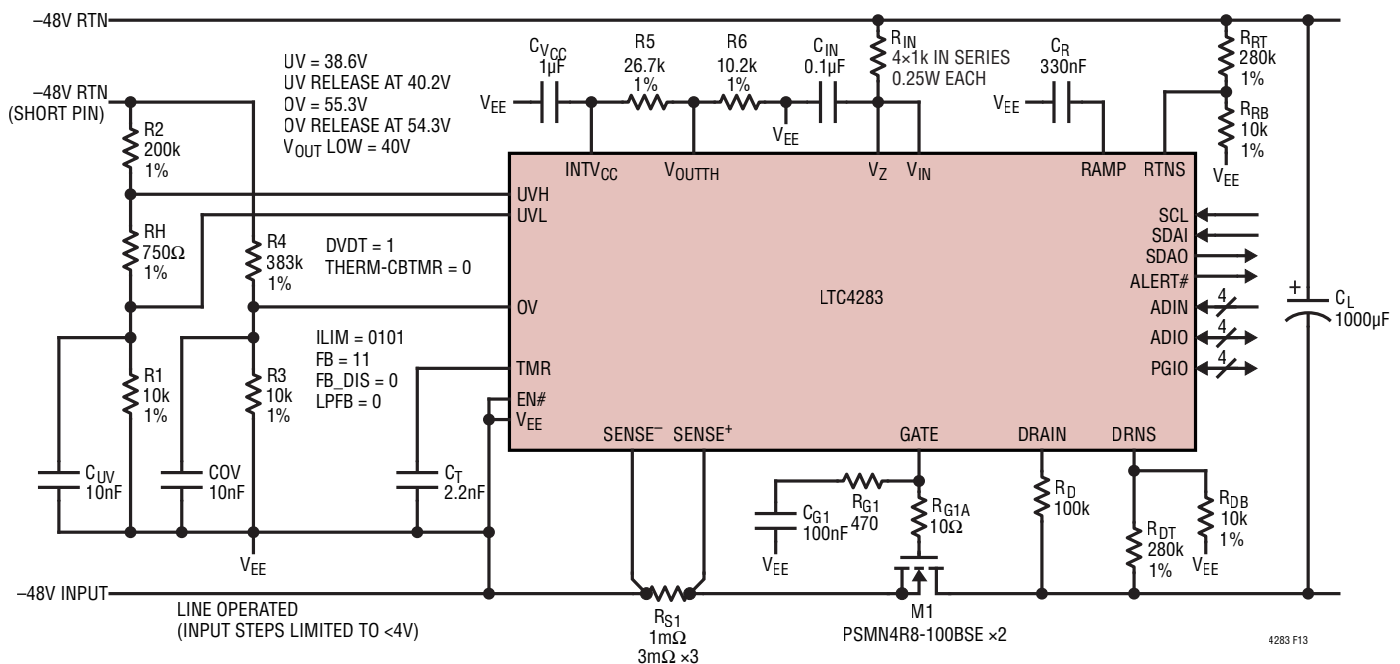

Figure 13. -48V/800W Hot Swap Controller with dV/dt Inrush Control
The second example is a line operated -48V system with supply tolerance of 10% (-43.2V to -52.8V) and maximum load power of 800W as shown in Figure 13. The load capacitance is specified as $C_L = 1000\mu\text{F}$.
INTV_{CC} (5V) and V_{EE}. The divider ratio is $5\text{V}/1.379\text{V} = 3.63$. A divider of $26.7\text{k}\Omega$ and $10.2\text{k}\Omega$ as shown Figure 13 gives a close enough ratio of 3.62.
Although it is possible to use a single, four-resistor (or three-resistor if UVH and UVL connected together) divider as shown in Example 1, Step 7, two independent dividers with 2 (OV) or 2 to 3 (UV) resistors in each divider make it easier to make non-interactive changes at a later time. The two dividers as shown in Figure 13 gives UV shutdown at 38.6V, UV release at 40.2V, OV shutdown at 55.3V and OV release at 54.3V, which covers the full input voltage range of this example. 10nF capacitors filter out noises on UVL and OV.